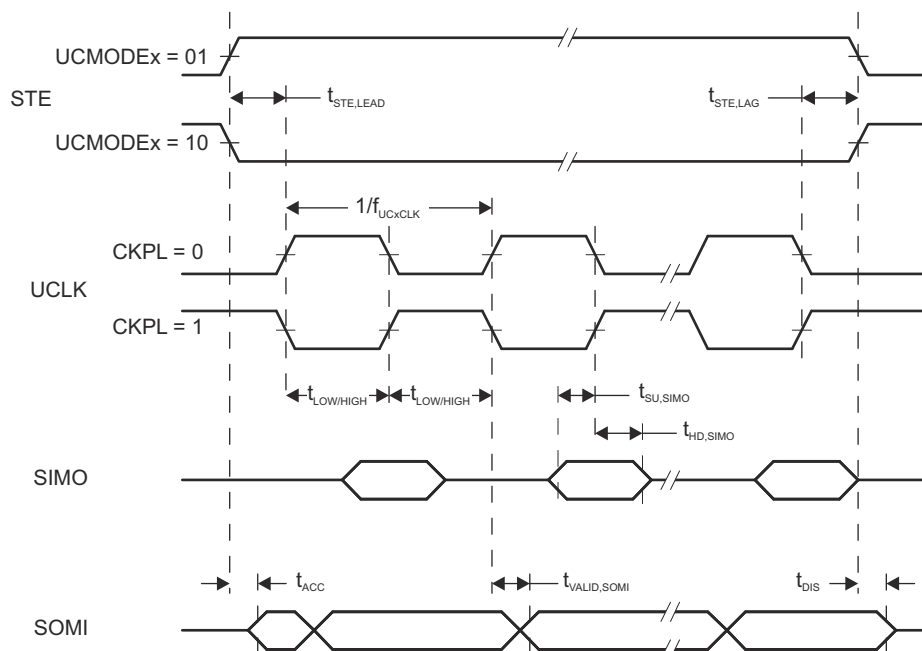

图 8-12. SPI Slave Mode, CKPH = 0
- (2) Specifies the time to drive the next valid data to the SOMI output after the output changing UCLK clock edge. See the timing diagrams in 图 8-12 and 图 8-13.
- (3) Specifies how long data on the SOMI output is valid after the output changing UCLK clock edge. See the timing diagrams in 图 8-12 and 图 8-13.